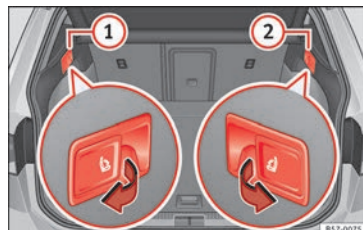

Fig. 146 In the luggage compartment: levers for remote release of the left part (1) and right part (2) of the rear seat backrest.
- Pull the remote release lever of the left part » Fig. 146 ① or right part ② of the backrest in the direction of the arrow. The released part of the rear seat backrest is folded automatically down and forwards.